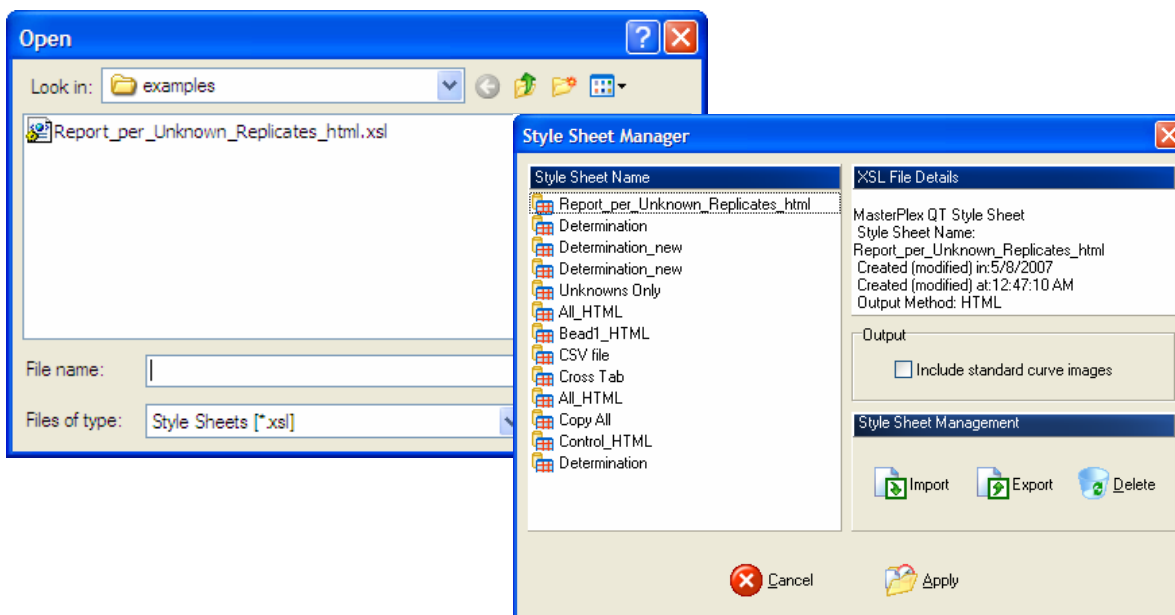

Figure 8.20 Stylesheet information window
4. Select a stylesheet from the manager window. The “XSL file details” window will display the information of the selected stylesheet, including name, created time, and output type (e.g., text, html, xml) (Figure 8.20).